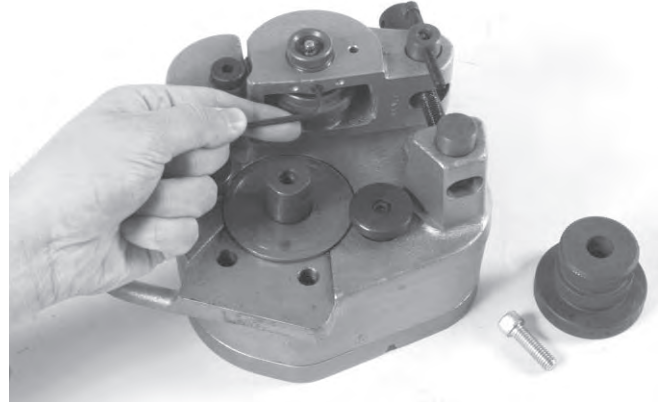

Figure 9 – Loosening Set Screw in Reaction Arm
5. Using a $\frac{1}{8}$ " hex key, loosen set screw in reaction arm and remove groove roll shaft (Figure 9).